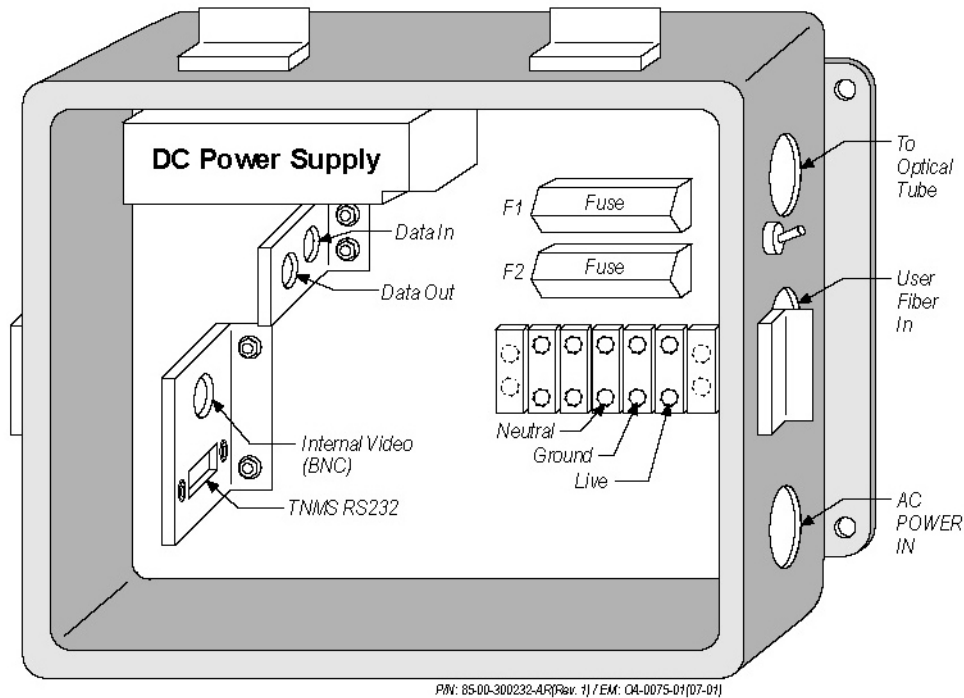

Figure 3. Diagram of Electronics Box.
We recommend running the AC power, the two **multimode** data fibers (do not use single-mode fiber unless the single mode option unit has been purchased), and any optional remote management control cables to a weatherproof junction box close to the mounting location. From this junction, the fiber and AC power and the remote management cables will be run to the TereScope electronics box (see Figure 3). For installations using remote management, at least five strands of multimode fiber should be run - two for data, two for RS232 data, and one for video. If fibers are run for remote management, fiber/RS-232 and fiber/RG-59 transceivers will be required inside the electronics box.
1. Set up a TV or other video monitor that is shaded from the sun. Open the electronics box. Attach a RG-59 video coaxial cable to the BNC video connector located inside the electronics box (see Figure 3) and plug the other end of the cable into the video input of the TV (a BNC-to-RCA adapter may be required). The TV will be used for visual alignment.
2. Plug in either a PalmPilot™ running the TereScope Control software or a laptop PC running the TereScope Monitor software to the RS-232 serial port connector located inside the electronics box (see Figure 3). The PalmPilot™ Control or PC Monitoring software will display quantitative information about link quality during alignment.